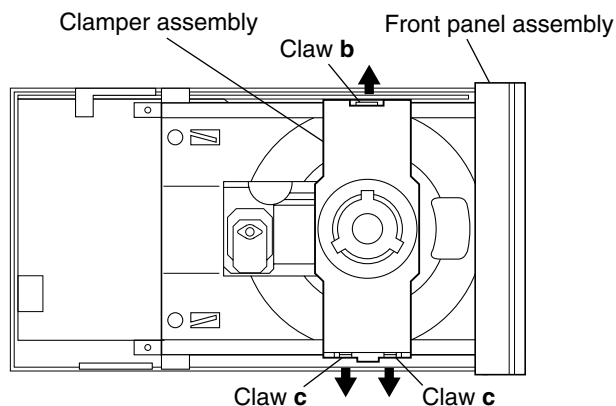

Fig. 8
■ Replacing the CD pickup unit (See Figs. 8 to 11.)
2. Remove the top cover (see **Figs.8** and **9** "Main body section" on page 1-8).